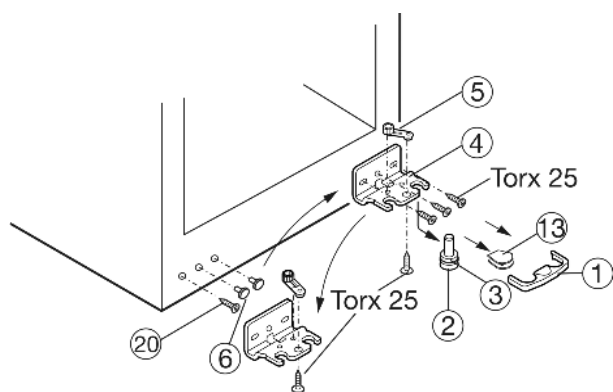

Fig. 4
- ▶ Draw safety lock Fig. 4 (1) forwards for removal.
- ▶ Remove the cover Fig. 4 (13)*.
- ▶ Pull out the bearing pin Fig. 4 (2) downwards and forwards. In so doing, pay attention to the hinge bush Fig. 4 (3).
- ▶ Unscrew the turn hinge Fig. 4 (4).
- ▶ Unscrew the bearing part Fig. 4 (5), transfer it to the opposite hole in the turn hinge and screw it down again.
- ▶ Carefully lift out the plugs Fig. 4 (6) and insert them into the opposite side.
- ▶ Unscrew the screw Fig. 4 (20) and insert it into the opposite side.
- ▶ Screw the bearing bracket Fig. 4 (4) onto the new hinge side **tightly (4 Nm)** or retighten with the aid of a cordless screwdriver if necessary.
- ▶ Slightly tip the appliance backwards again and reinsert the bearing pin Fig. 4 (2) together with the hinge bush Fig. 4 (3). The notch on the bearing pin must face forward.
- ▶ Place the cover Fig. 4 (13) on the opposite side.*
- The safety lock (1) has to engage with the turn hinge at the side so that the bearing pin and therefore the door are secured.
- Snap the safety lock (1) onto the turn hinge again.
- If necessary, align the door to the appliance housing by way of the two oblong holes in the turn hinge Fig. 4 (4). To do so, unscrew the middle screw.